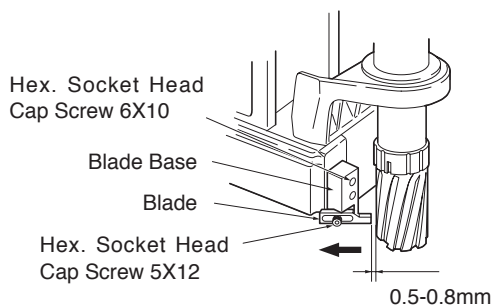

Fig. 34
(1) Mount Blade Base. (Fig.34)